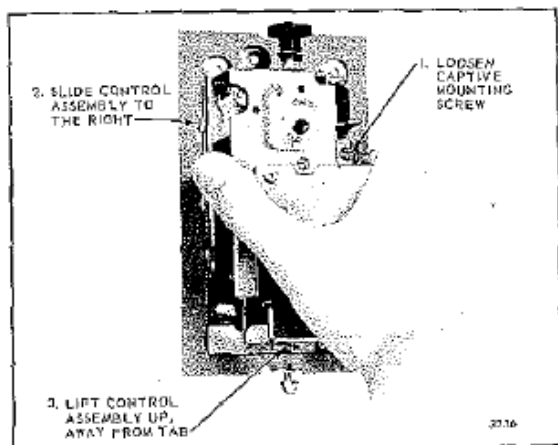

Fig. 2—Mounting the control on the backplate.
2. Remove the mounting plate from the control assembly as shown in Fig. 2.
2. Attach the H600A to the mounting plate by slipping it under the tabs (Fig. 2) and tightening the captive mounting screw.